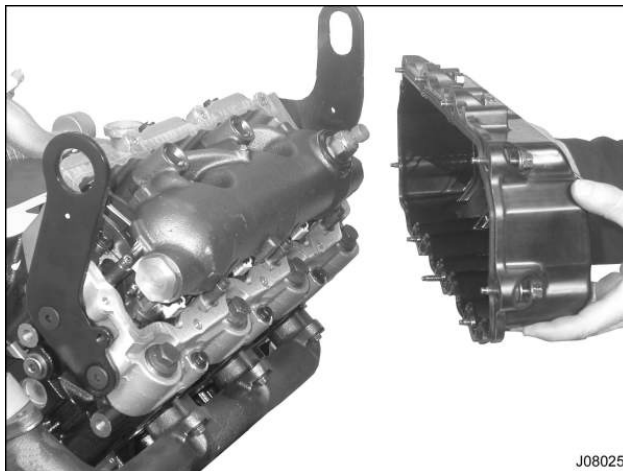

Figure 2 Valve Cover Removal
15. Remove right valve cover from vehicle (Figure 2).